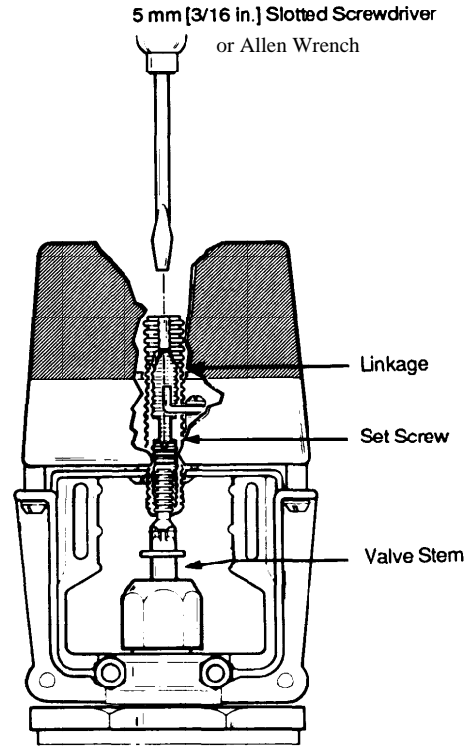

FIG. 6. -- LOCKING ML6984A DRIVE SHAFT TO VALVE STEM
6. Depending on which type of set screw was used, with a 5 mm (3/16") Slotted screwdriver or 1/8"x 6" Allen wrench (included in the plastic bag), **tighten the set screw to lock valve stem in place** (Fig. 6).